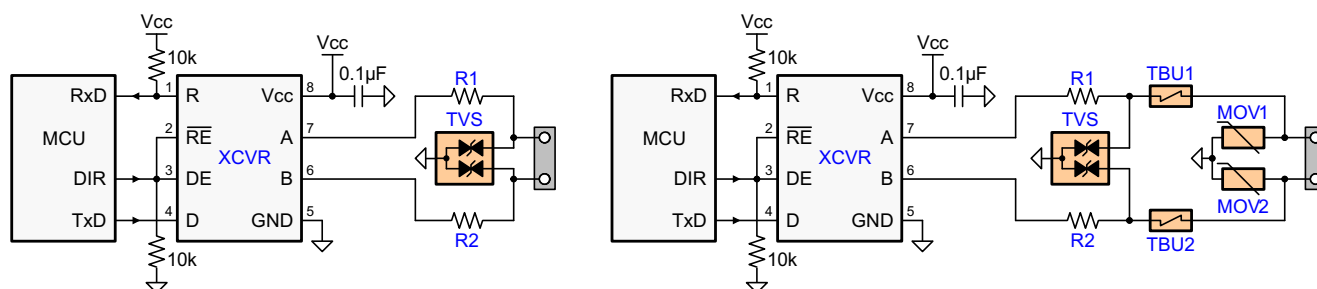

Figure 19. Transient Protections Against ESD, EFT, and Surge Transients
The left circuit shown in Figure 19 provides surge protection of ≥ 500 -V transients, while the right protection circuits can withstand surge transients of 5 kV.
While the transient protection is similar to the one in Figure 19 (left circuit), an additional high-voltage capacitor diverts transient energy from the floating RS-485 common further towards protective earth (PE) ground. This diversion is necessary as noise transients on the bus are usually referred to earth potential.